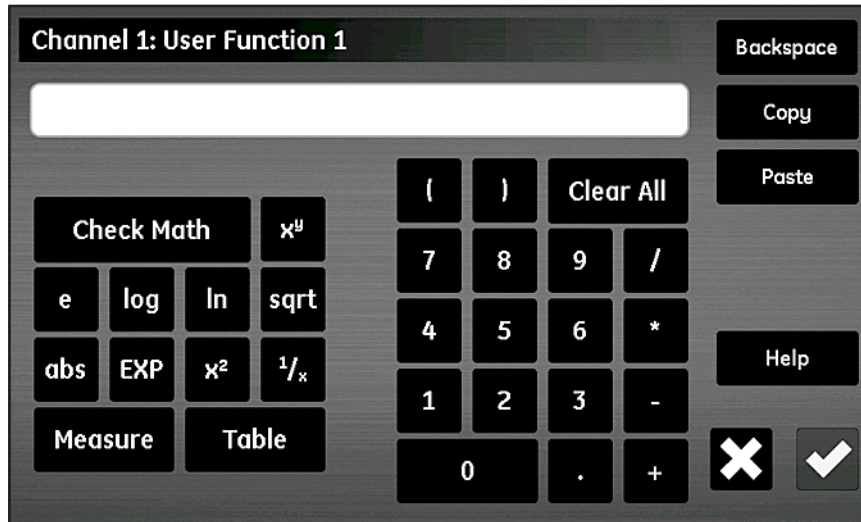

Figure 61: User Function Equation Screen
3. Tap the **User Function** button to select the function name (**Func 1**, **Func 2**, **Func 3** or **Func 4**). Then, tap the large text box just below the **Channel** button to open the *Channel x:User Function y* screen, as shown in *Figure 61* below, to enter the function equation. When the equation is complete, tap the **Check** button to return to the *User Function Setup* screen.
The buttons in *Figure 61* above permit the inclusion of standard mathematical functions, lookup data from predefined user tables (see “*Entering User-Defined Tables*” on page 71). The **Check Math** button is used to find any errors in the equation definition. Also, you may tap the **Clear All** button at any time to start over. The **Copy** and **Paste** buttons at the top right corner of the screen may be used to duplicate information from one user function to another to avoid entering the same information multiple times.